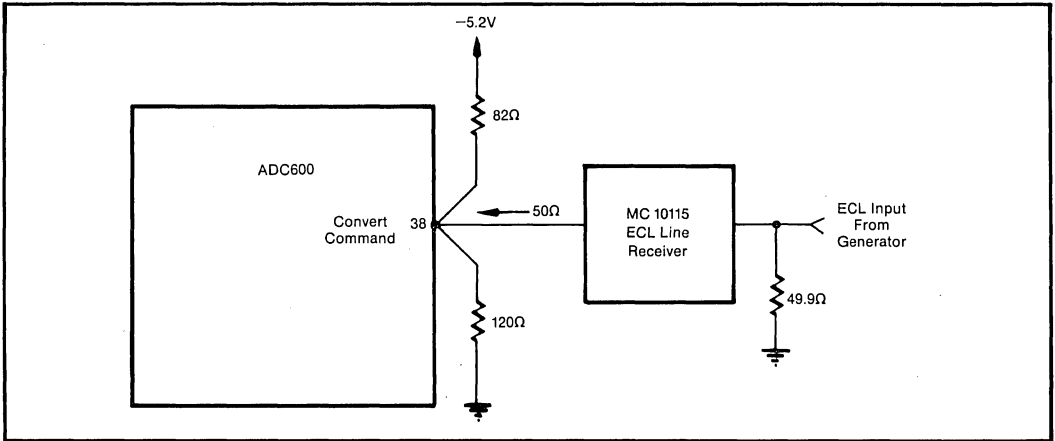

FIGURE 7. Optional Convert Command Interface Circuit.
6. A low-noise (jitter) clock signal (convert command) generator is required for good ADC dynamic performance. A recommended interface circuit is shown in Figure 7. Short leads are necessary to preserve fast ECL rise times.